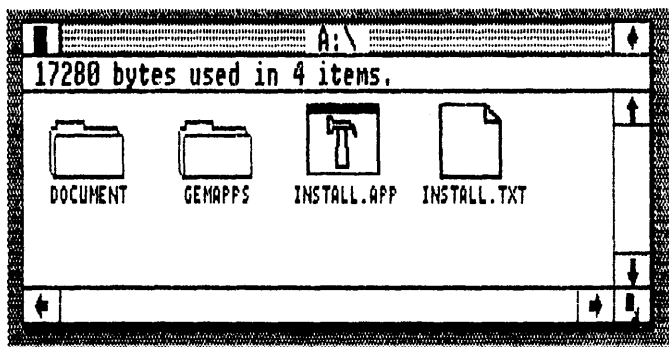

Fig. 3-15. Double-click on the INSTALL.APP icon for installing GEM Write.
- ☐ Double-click on the INSTALL.APP icon (Fig. 3-15).